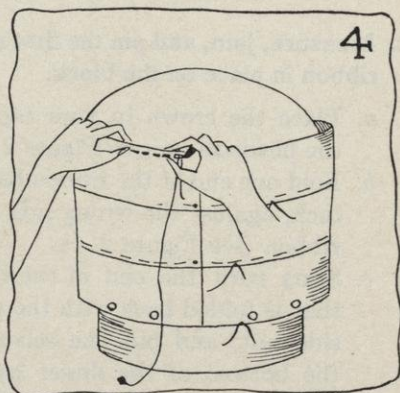

FIG. 4.
- d. Baste these lapped edges of ribbon together (see Figure 4).
- e. Put a very fine shirring thread right in the upper selvage (see Figure 4), and draw it up to form a well-shaped oval. Twist the ends of the shirring thread over a pin to form an eight.